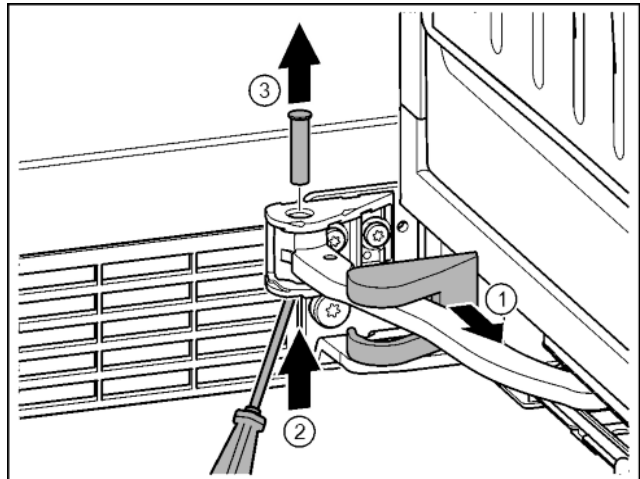

Fig. 16
- Remove cover and slide along the hinge. Fig. 16 (1)
- Lift bolt with finger or screwdriver from below. Fig. 16 (2)
- Insert the screwdriver under the bolt head and remove. Fig. 16 (3)